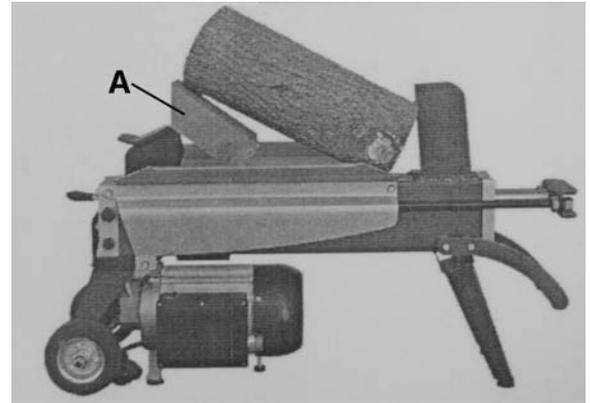

FIGURE 10
- 2) After the log pusher moves back and completely stops at its starting position, insert a wedge wood (A) Fig.10 under the jammed log.
- 3) Start the log splitter to push the wedge wood to go on completely under the jammed one. See Fig.10.